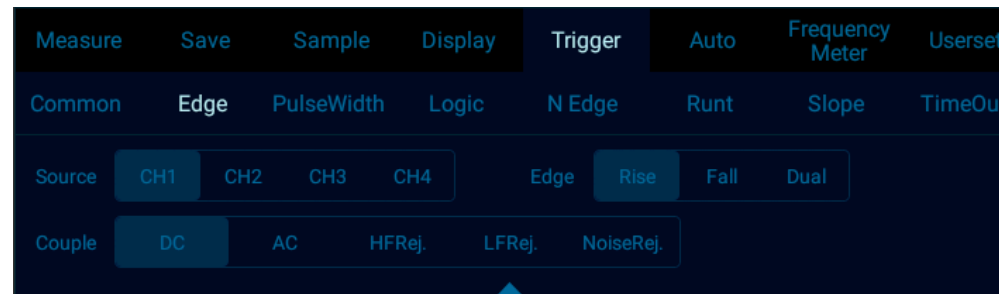

Figure 6-11 Edge Trigger Setting Menu
- 1) Tap “Trigger” on the main menu to open the trigger menu, select edge trigger in the trigger type, and set edge trigger as follows, as shown in Figure 6-11: